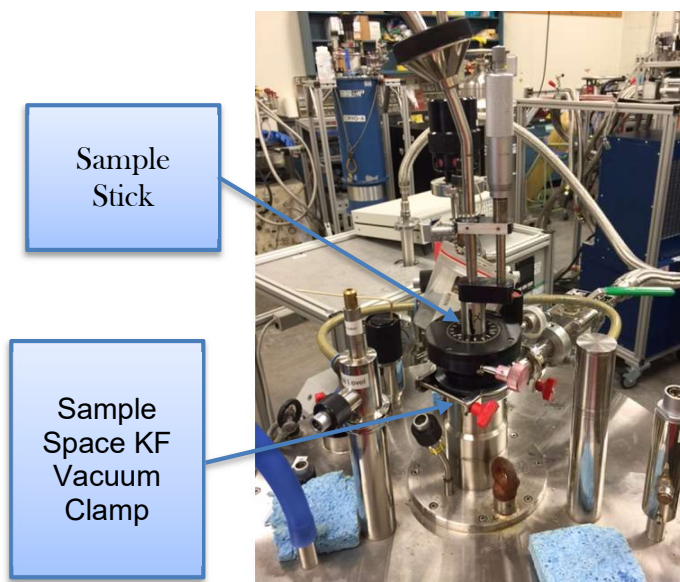

Figure 10
- 1.15 With helium gas flowing in the sample space, loosen/remove sample space KF vacuum clamp, and remove the sample stick (Figure 10).